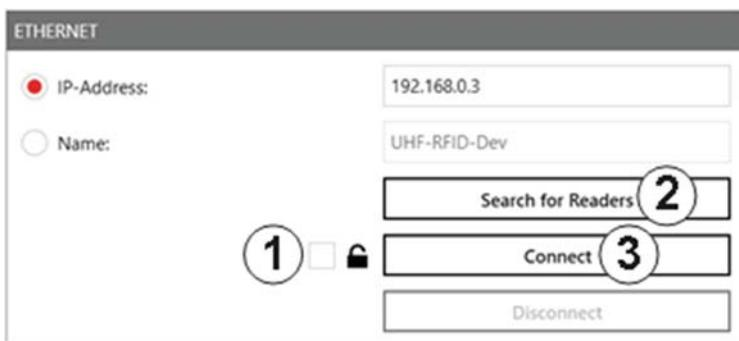

Figure 24 Ethernet section
1. In the Ethernet section, click the box next to the lock symbol (① in Figure 24).
2. Click *Search for Readers* (②) or *Connect* (③).